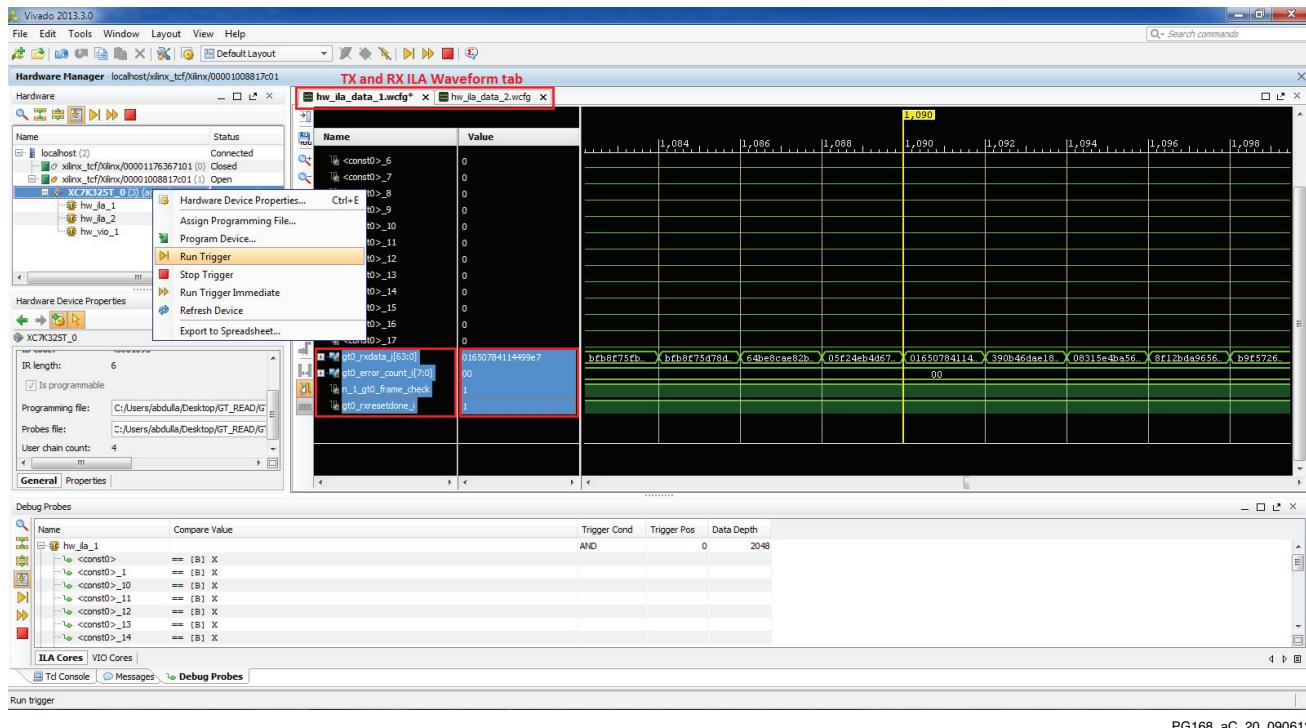

Figure C-20: Run Trigger
23. Right-click the device again and select **Run Trigger**. You will be able to see all the ILA cores debug signals in the waveform, as shown in Figure C-20.
- Make sure that the signals have the values shown in the RX ILA waveform window (Figure C-20):